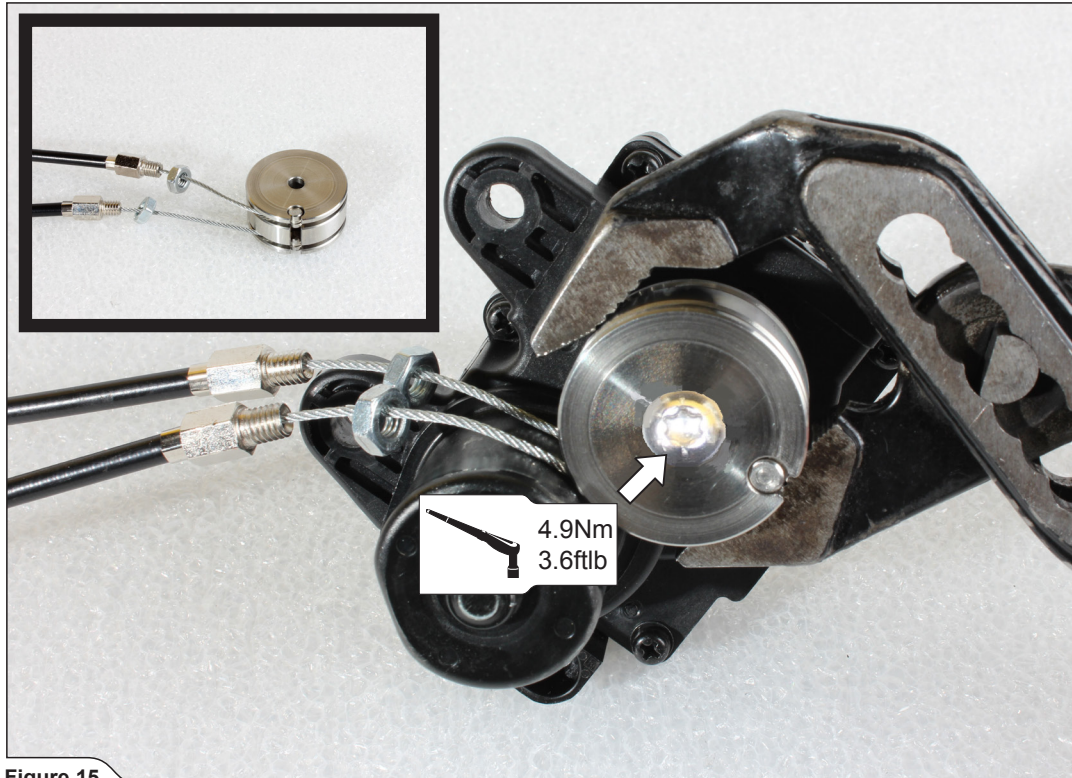

Figure 15
2. Hook the cables onto the cable wheel, correctly position/orient the wheel and bolt the wheel onto the servo motor (Figure 15).